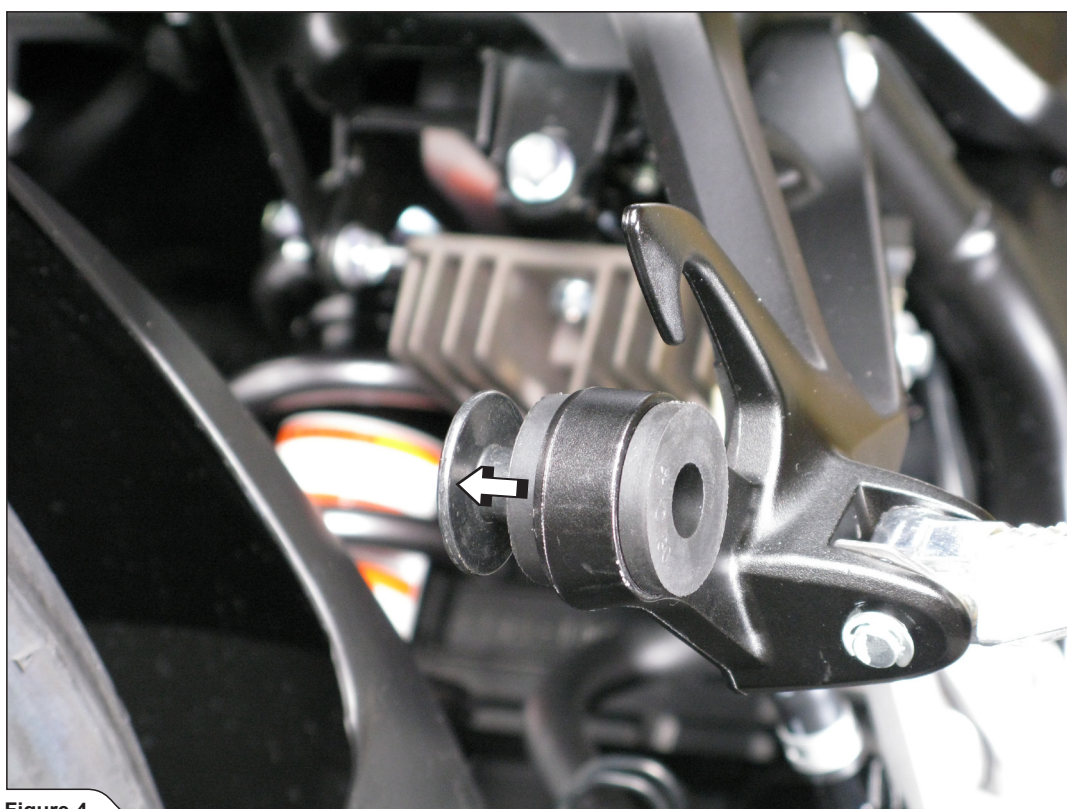

Figure 4
3. **For Slip-On only:** displace the metal collar from back side to front side of original muffler bracket, as shown (Figure 4, 5).